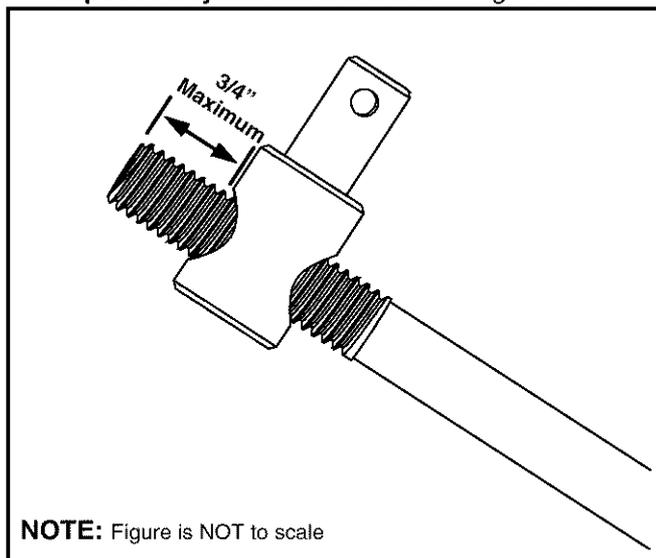

Figure 19
- Adjust the speed control by threading the ferrule inward so that **no more than 3/4-in. of the rod is exposed beyond the ferrule.** See Figure 19.